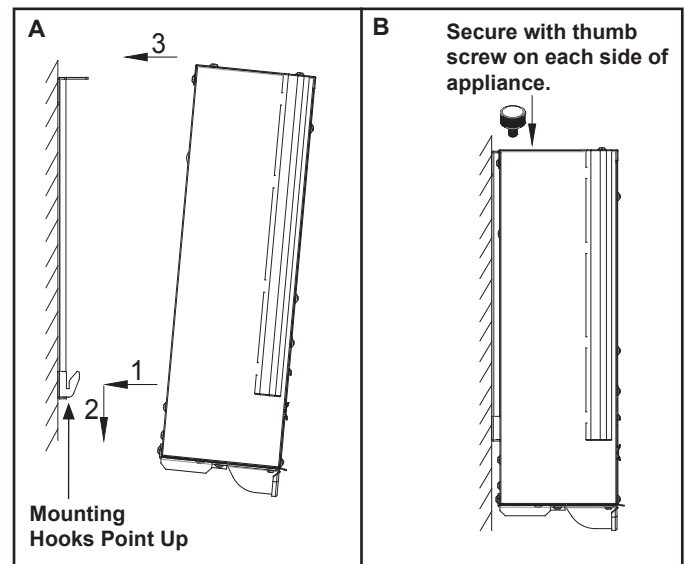

Figure 4.7 Attaching Fireplace to Bracket
- With the firebox at an angle, align the slots in the back of the firebox over the hooks on the bottom of the wall bracket. Pull the appliance down to ensure that the hooks are fully engaged. See Figure 4.7.A.
- Carefully press the top of the firebox against the wall mount bracket sliding the top edge over the wall mount bracket tabs. See Figure 4.7.B.
- Secure the appliance to the bracket with two thumb screws. See Figure 4.7.B.